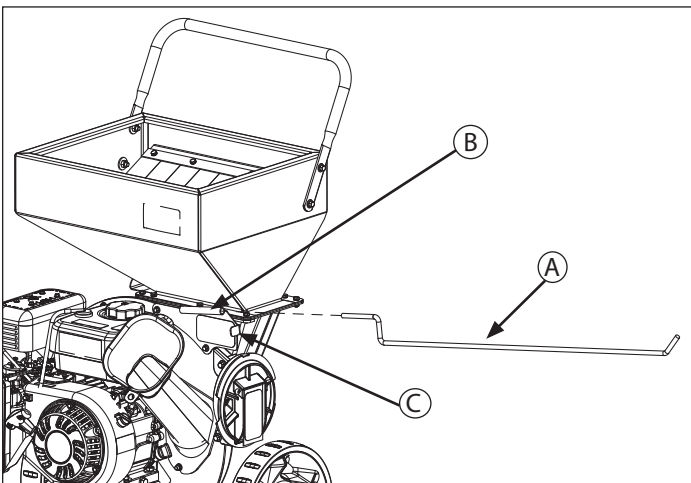

FIGURE 6
1. Slide the support rod (A) into the bracket (B). **SEE FIGURE 6.** Rotate the rod so that it sits below the front tab (C) of the bracket. **FIGURES 6 & 7**